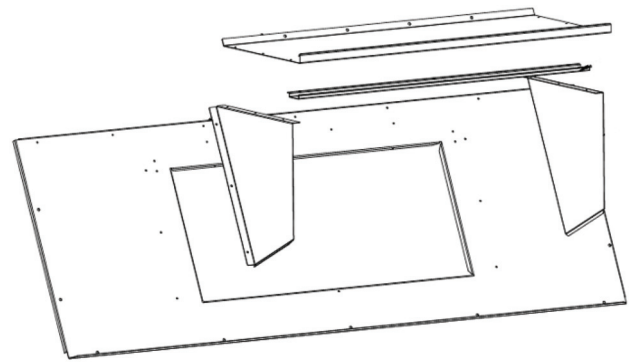

Fig. 17 — Barometric Hood Exploded View
3. Install parts as shown in the following exploded view (see Fig. 17) using the seal strip and screws provided in the parts box.